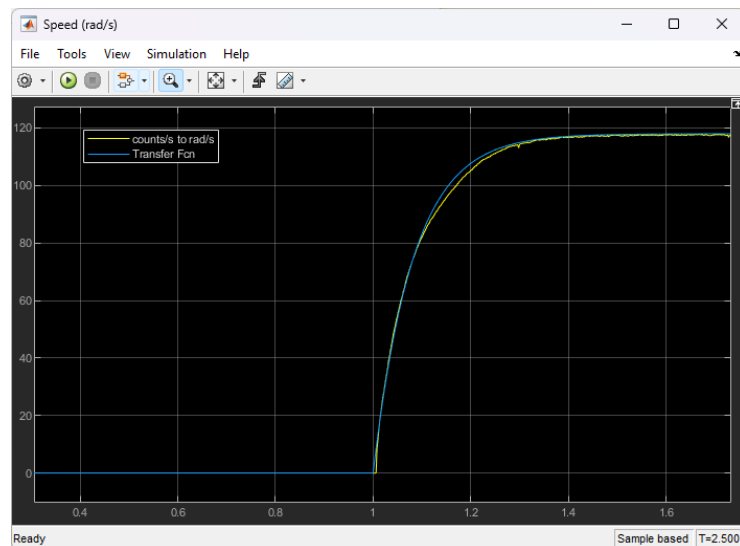

Figure 3. Sample QUBE-Servo 3 Measured and Simulated Speed Response
9. Run your QUARC controller again. Look at the Speed Scope output to compare your derived model with the real output. Your output should look like figure 3 but across the 2.5 seconds the model ran for.